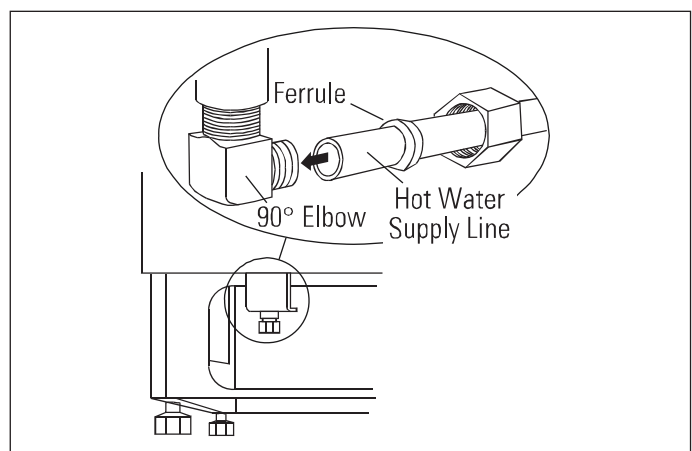

Figure 2-17.
1. Slide compression nut, then ferrule over end of water line. (See Figure 2-17)